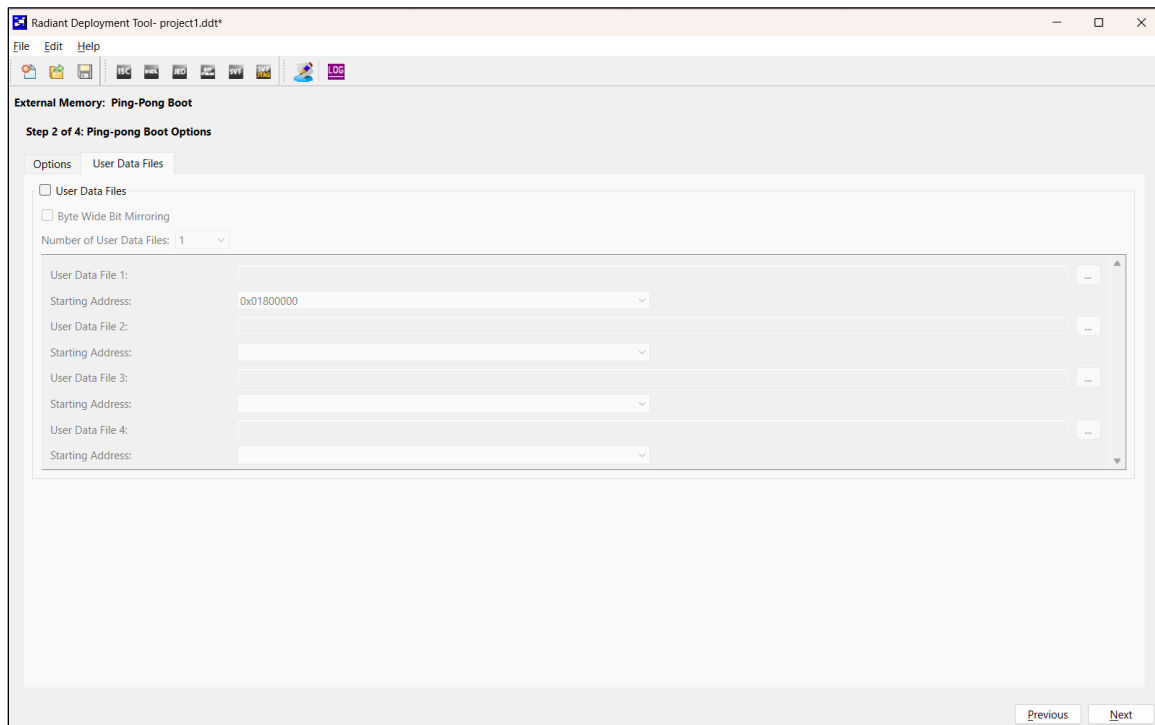

Figure 7.10. Ping-Pong Boot Options Window – User Data Files Tab
- (Optional) If programming the flash memory with user data is required, click the **User Data Files** tab (Figure 7.10).